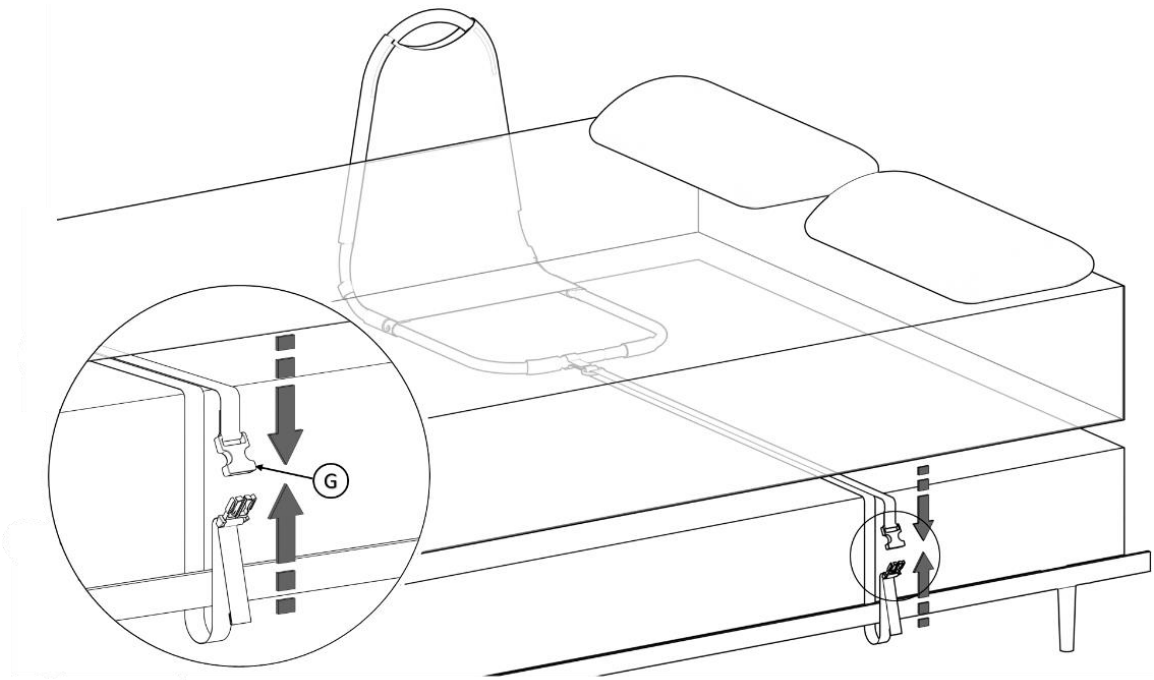

FIGURE 6
6. Loop SAFETY STRAP (G) around bed frame, re-buckle and tighten SAFETY STRAP to secure Bedrail product against side of the mattress as shown in *FIGURE 6*.